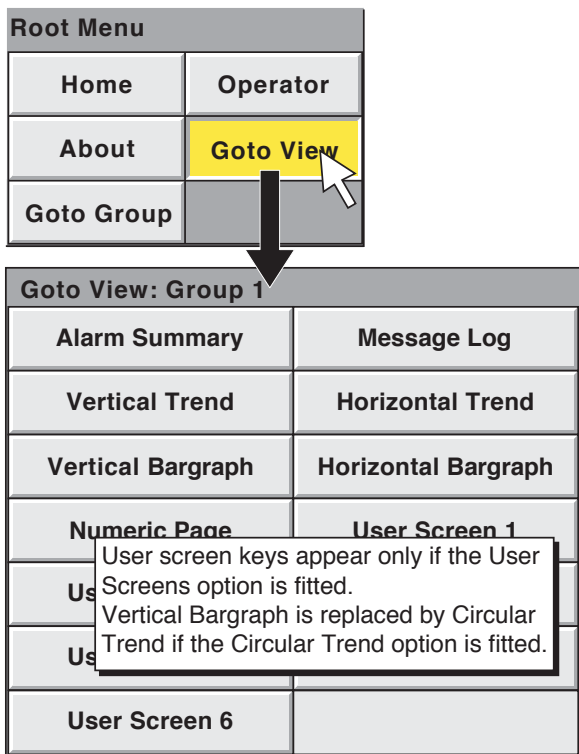

Figure 3.2.1a
Root	Calls the 'Root Menu' as shown in figure 3.2.1a, below. To quit the Root menu, click the root key again.
- Goto View Allows the user to select the display mode for the current group, as shown in figure 3.2.1a. Display modes not enabled for this group in Config/Views configuration pages (section 4.3.4) do not appear. As an alternative, display modes can be scrolled-through using the up and down arrow navigation keys.